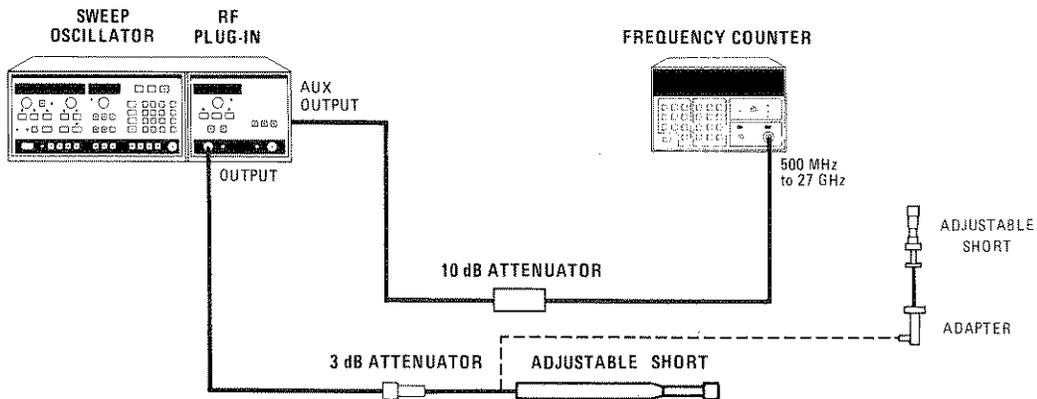

Figure 4-6. Frequency Change with 3:1 Load SWR Test Setup
8. Connect equipment as shown in Figure 4-6. Press the 8350A **INSTR PRESET**, **CW 1 GHz**, then **POWER LEVEL 1 0 dBm**.